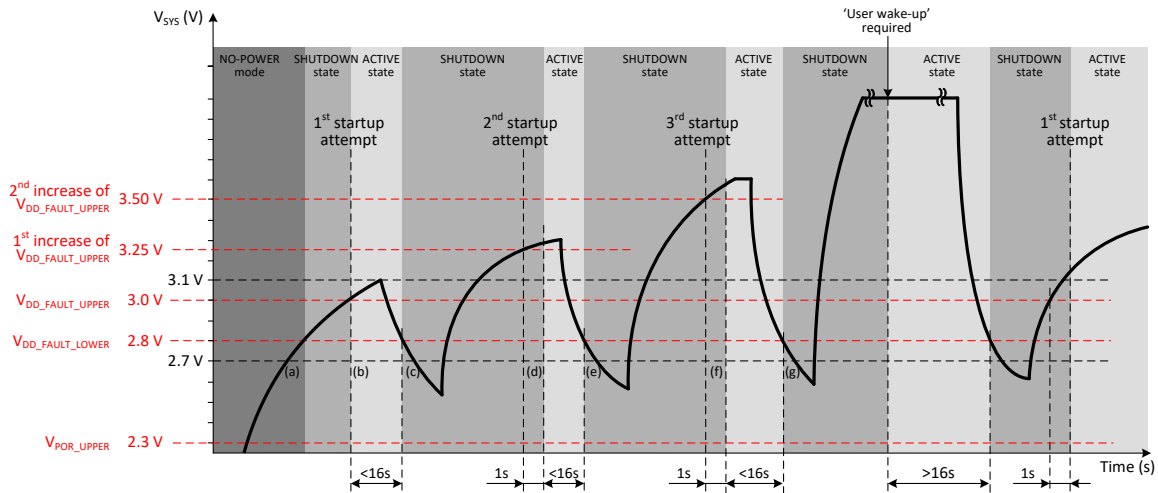

Figure 14: VDD_START Faults
The DA9063 `VDD_START` feature prevents endless looping of false starts in a weakly-powered system. `VDD_START` limits the number of automatic restart attempts to three. With reference to Figure 14:
- Figure 14\(a\): The PMIC starts from NO-POWER mode.
- Figure 14\(b\): First startup attempt. The PMIC transitions to the ACTIVE state when V_{SYS} rises above $V_{DD_FAULT_UPPER}$.
- Figure 14\(c\): If, during the first startup attempt, the V_{SYS} supply drops below $V_{DD_FAULT_LOWER}$ for more than 100 ms, the PMIC shuts down to the SHUTDOWN state. $V_{DD_FAULT_UPPER}$ is increased automatically by 250 mV. However, the increased $V_{DD_FAULT_UPPER}$ is limited to a maximum of 3.70 V.
- Figure 14\(d\): Second startup attempt. If V_{SYS} rises above the new $V_{DD_FAULT_UPPER}$ threshold, then the PMIC will power-up to the ACTIVE state.
- Figure 14\(e\): If, during the second startup attempt, the V_{SYS} supply drops below $V_{DD_FAULT_LOWER}$ for more than 100 ms, the PMIC shuts down to the SHUTDOWN state. $V_{DD_FAULT_UPPER}$ is increased automatically by a further 250 mV (500 mV above its original setting). However, the increased $V_{DD_FAULT_UPPER}$ is limited to a maximum of 3.70 V.
- Figure 14\(f\): Third startup attempt. If V_{SYS} rises above the new $V_{DD_FAULT_UPPER}$ threshold, then the PMIC will power-up to the ACTIVE state.
- **Figure 14(g):** If, during the third startup attempt, the V_{SYS} supply drops below $V_{DD_FAULT_LOWER}$ for more than 100 ms, the PMIC shuts down. From then on, `AUTO_BOOT` and wake-up from non-user events are temporarily disabled. 'User events' are defined in Table 40.